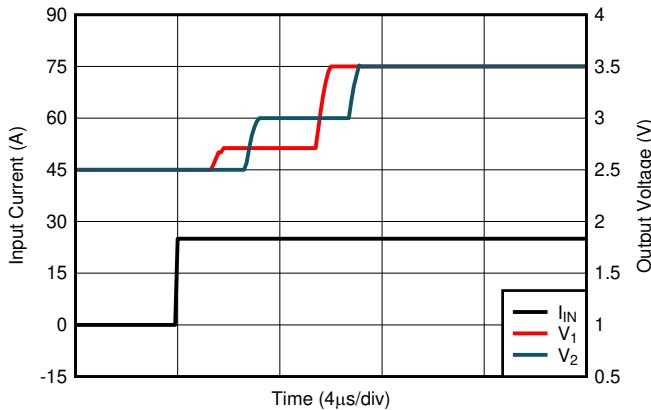

图 9-10. Transient Response to Input-Current Step Sufficient for 1-V Output Swing
**图 9-10** shows two transient waveforms to an input-current step event, but occurring at different times during the sampling interval. In both cases, the full transition of the output takes two sampling intervals to reach the final output value. The timing of the current event relative to the sampling window determines the proportional amplitude of the first and second sampling intervals.